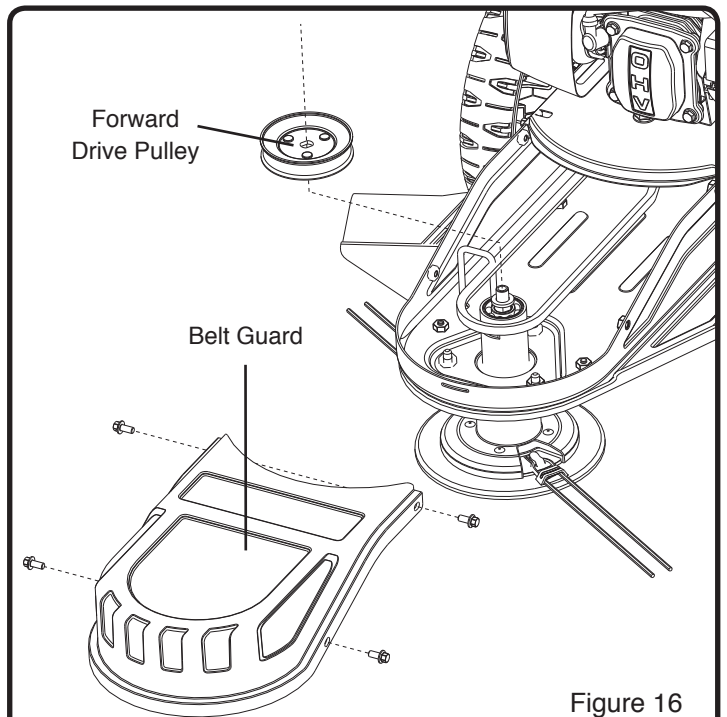

Figure 16
1. Remove the four fasteners that hold the plastic belt guard to the trimmer housing. (See Figure 16)
3. Remove the flange nut and washer that hold the forward drive pulley onto the trimmer head. (See Figure 16)